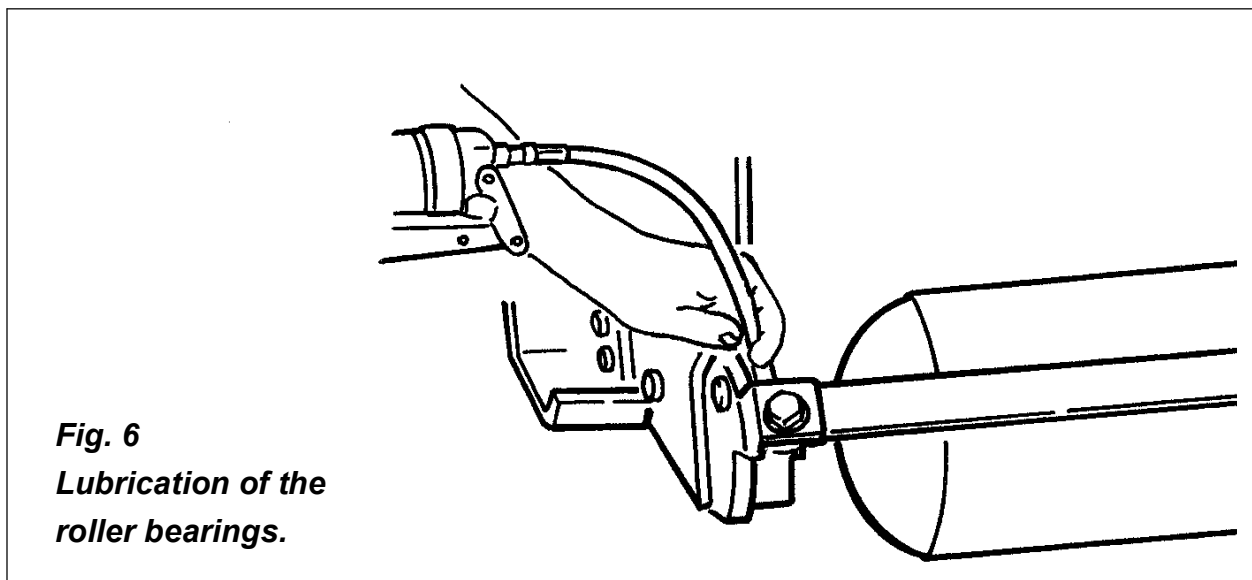

Fig. 6
1. **Lubricate driveline and roller bearings (see fig. 6):** Apply two or three shots of grease to the driveline cross and bearings and the telescoping shafts; apply the same amount to the roller bearings. See the driveline manufacturer operator's manual for further information on the driveline.